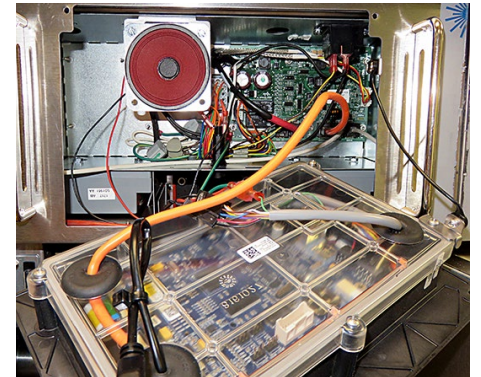

Figure 11
- 15. Lower the controller and rest it on the bottom of the control box (see Figure 11). The black tether on the right will support the controller.